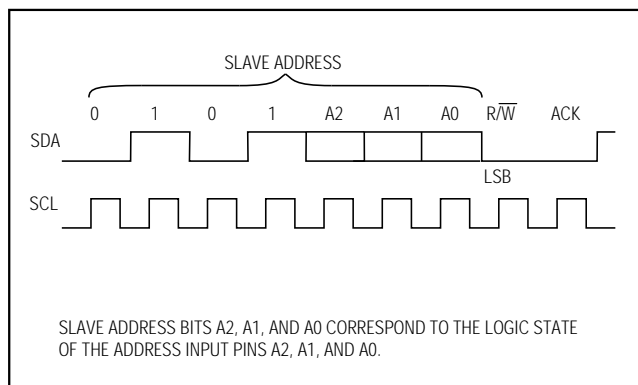
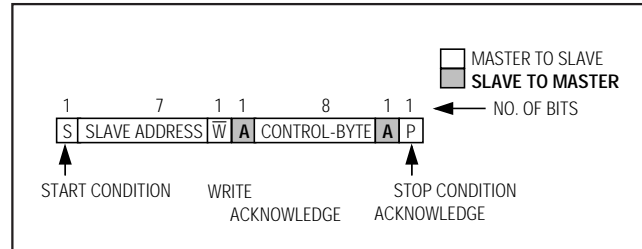
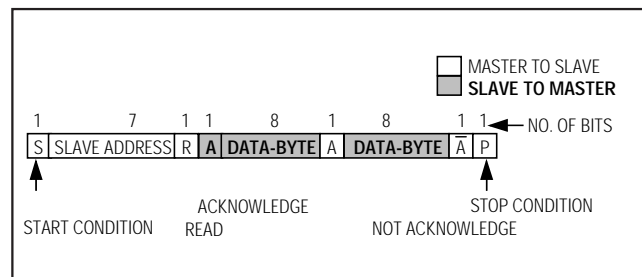
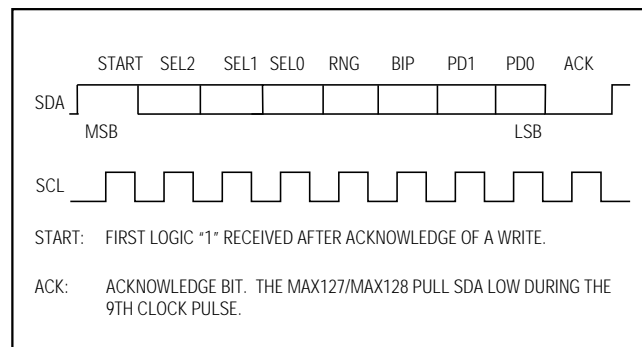

Figure 3. Address Byte
Figure 6. Write Cycle
Figure 7. Read Cycle
Figure 8. Command Byte
The MAX127/MAX128 have a 7-bit-long slave address. The first four bits (MSBs) of the slave address have been factory programmed and are always 0101. The logic state of the address input pins (A2–A0) determine the three LSBs of the device address (Figure 3). A maximum of eight MAX127/MAX128 devices can therefore be connected on the same bus at one time.
A conversion cycle begins with the master issuing a START condition followed by seven address bits (Figure 3) and a write bit ($R/\bar{W} = 0$). Once the eighth bit has been received and the address matches, the MAX127/MAX128 (the slave) issues an acknowledge by pulling SDA low for one clock cycle ($A = 0$). The master then writes the input control byte to the slave (Figure 8). After this byte of data, the slave issues another acknowledge, pulling SDA low for one clock cycle. The master ends the write cycle by issuing a STOP condition (Figure 6).
Once a conversion starts, the master does not need to wait for the conversion to end before attempting to read the data from the slave. Data access begins with the master issuing a START condition followed by a 7-bit address (Figure 3) and a read bit ($R/\bar{W} = 1$). Once the eighth bit has been received and the address matches, the slave issues an acknowledge by pulling low on SDA for one clock cycle ($A = 0$) followed by the first byte of serial data (D11–D4, MSB first). After the first byte has been issued by the slave, it releases the bus for the master to issue an acknowledge ($A = 0$). After receiving the acknowledge, the slave issues the second byte (D3–D0 and four zeros) followed by a NOT acknowledge ($\bar{A}=1$) from the master to indicate that the last data byte has been received. Finally, the master issues a STOP condition (P), ending the read cycle (Figure 7).